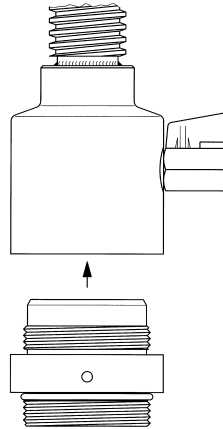

Figure 6
- Choose the adapter that matches the thread of the saddle and screw it into the machine dome. See *Figure 6*.